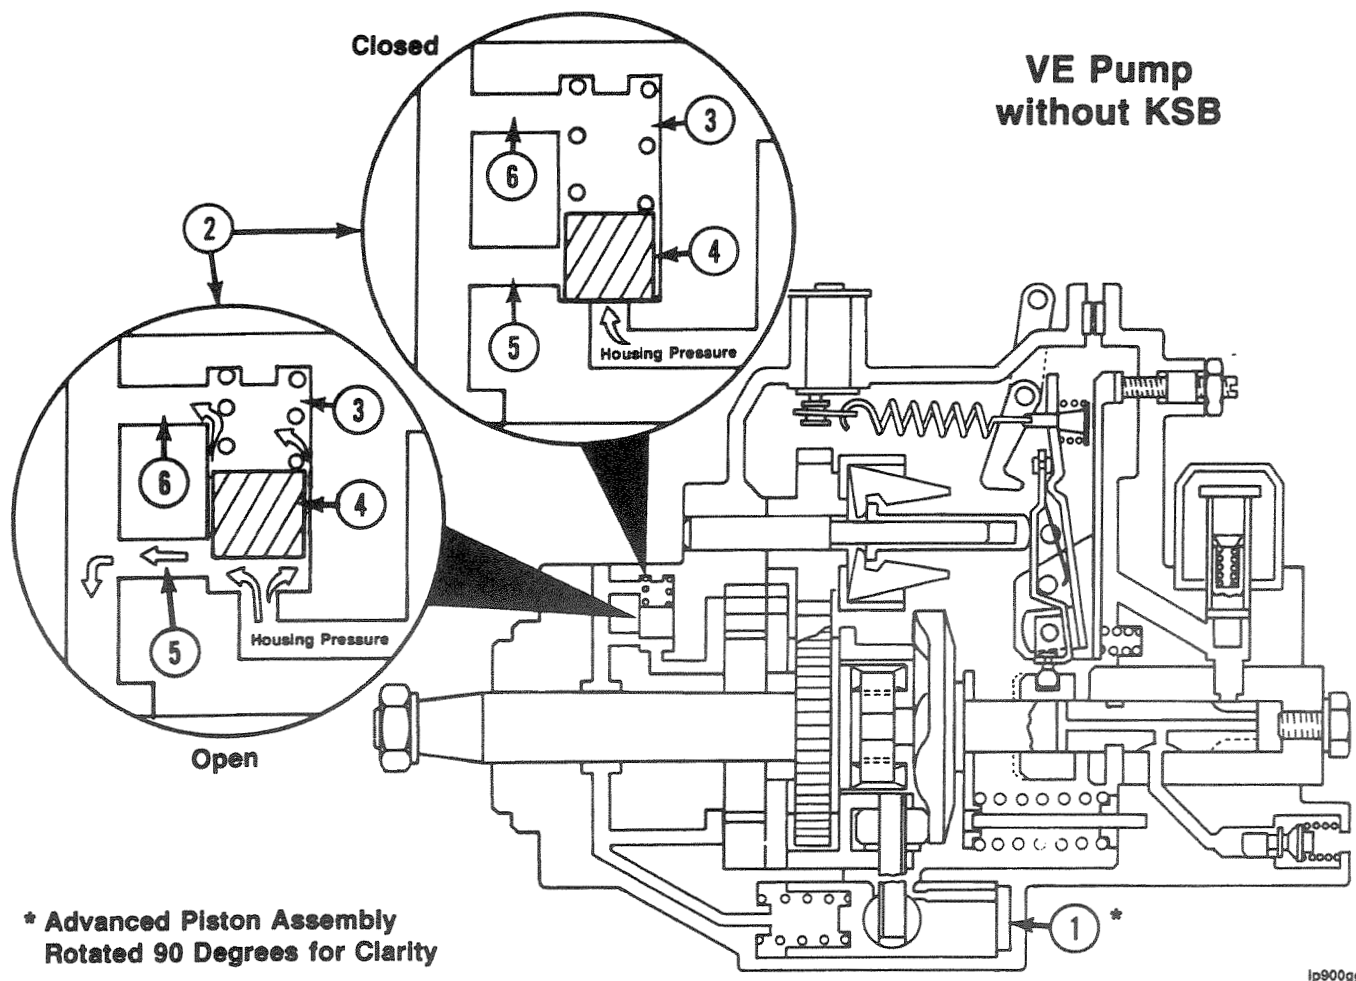

Figure 1, VE pump timing, regulated by opening and closing the pressure regulator valve.
Pump housing pressure acts on an internal timing piston (1), Figure 1, to partially advance the injection timing at idle, and fully advance the timing when the engine RPM reaches approximately 60% of rated speed. As pump pressure increases, timing advances.
The KSB introduces a new fuel line (1), Figure 2, which routes fuel from the relief port (2) of the pressure regulator valve (3) to a pressure holding valve (4), bypassing the normal return passage (6), Figure 1.
The pressure holding valve (4), Figure 2, is closed when the engine is cold. When the engine starts, the pressure regulating valve (3) attempts to regulate fuel pressure as before (without KSB) but the fuel from the relief port (2) now meets a 'dead end' at the closed pressure holding valve (4). This action hydraulically locks (closes) the pressure regulator slider valve (4), Figure 1.